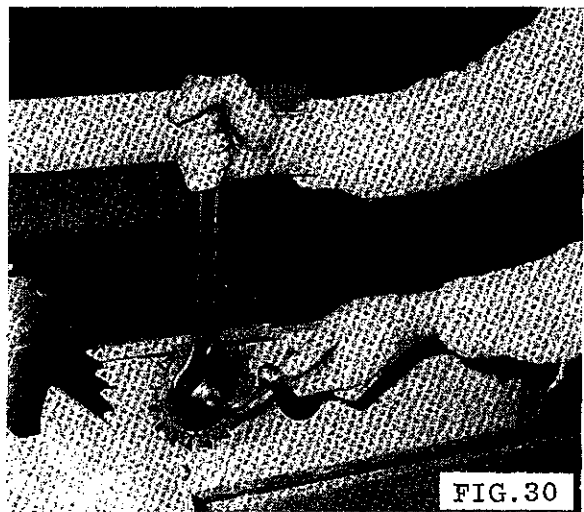

FIG. 30
- 4 Fit scoring saw with teeth pointing towards rear of machine, FIG.30.